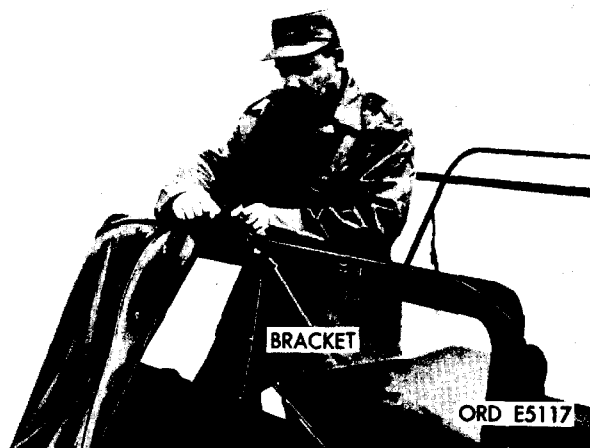

Figure 2-23. Canvas top sliding through slot.
i. Stand in the passenger compartment and proceed sliding the canvas top through the slot at top of the windshield (fig 2-23).